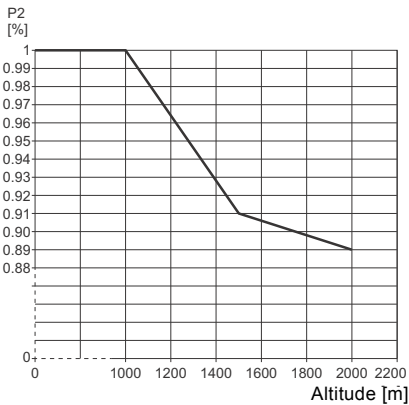

Fig. 3 Derating of motor output (P2) in relation to altitude above sea level
- Motors installed more than 1000 metres above sea level must not be fully loaded due to the low density and consequent low cooling effect of the air. See fig. 3.